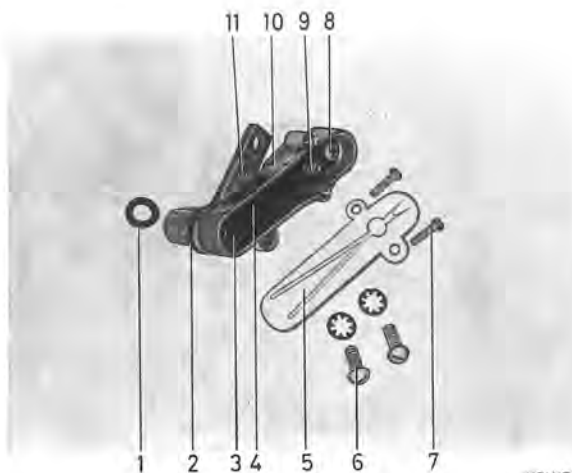

Fig. 2-81. Temperature compensator
3. Should there be a powerful drop in the idling speed during idling for a lengthy period, especially when the weather is warm, check the function of the temperature compensator by removing the plastic cover and pressing in the valve (3, Fig. 2-81). This should move under very light pressure and return to its position without sticking. This applies at a temperature above 80° F. The valve starts opening at 70°—77° F.
The temperature compensator is replaced complete. It is removed from the carburetor by unscrewing the screws. (6, Fig. 2-81). Take out the old seal (1) from the carburetor and fit a new one. Place a new seal (2) on the temperature compensator and fit the compensator. The temperature compensator is marked "60" (see 11, Fig. 2-81).